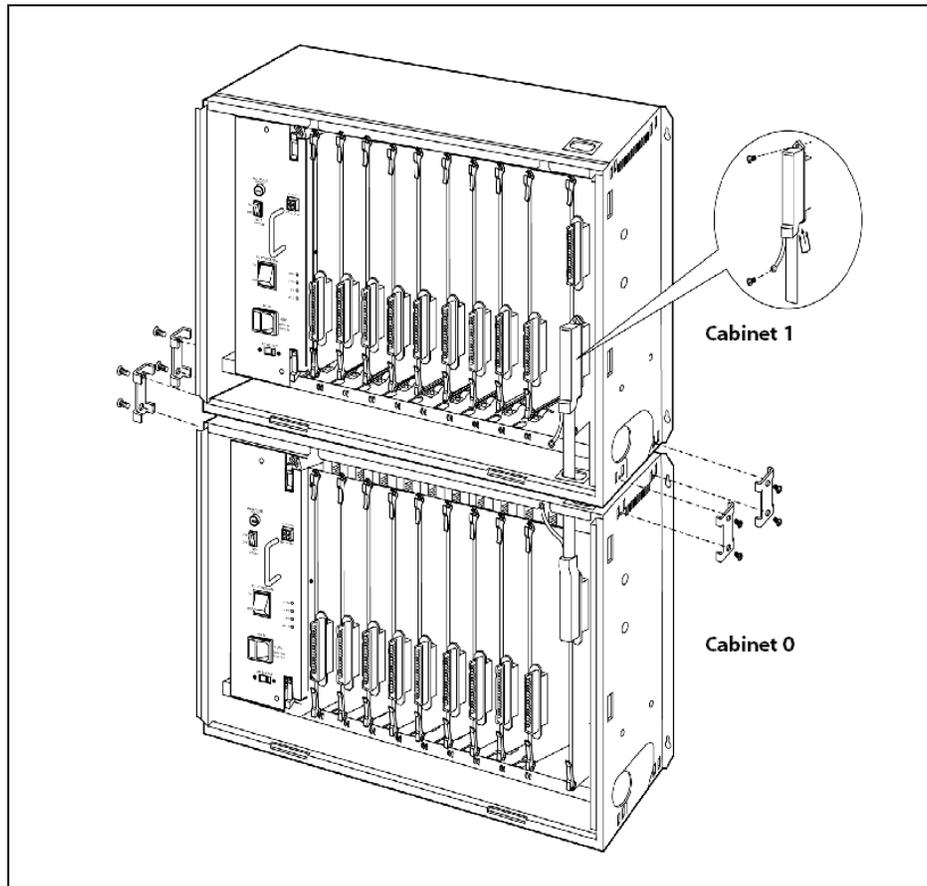

Figure 3-3: Connecting Cabinet 0 and Cabinet 1
4. Interconnection is achieved via a amphenol type connector. No cable is used to connect the Cabinets together. Refer to Figure 3-3.